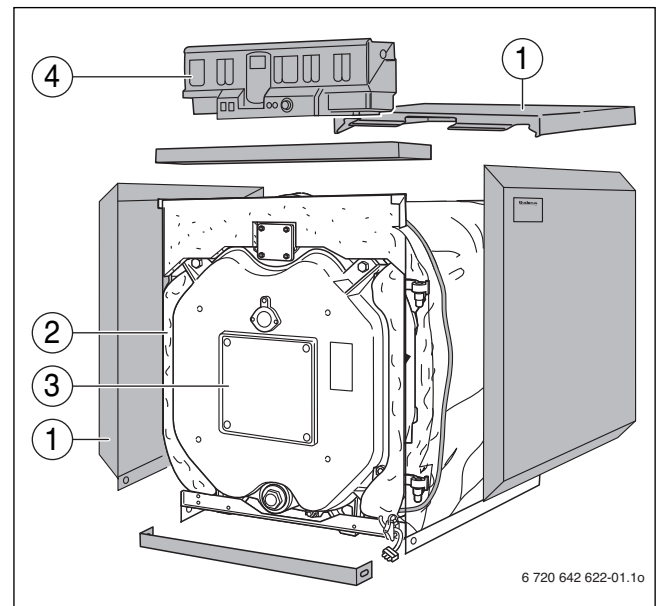

Fig. 1 Oil/gas-fired boiler Logano G315
- Boiler block (→ Fig. 1, [3])
- Boiler shell (jacket → Fig 1 and 2, [1]), thermal insulation (→ Fig 1, [2])
- Control panel (→ Fig 1, [4])